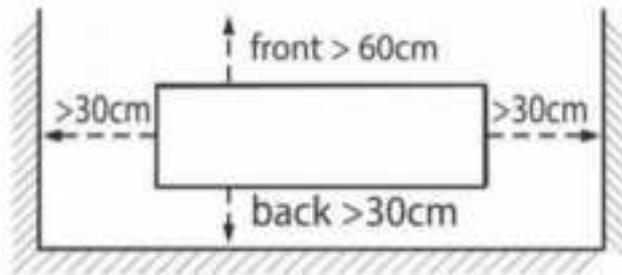

Fig.1
3. The chiller unit must be installed in a condition with good ventilation. Keep the clearance of at least 30cm for the back (air inlet) and two sides and at least 60cm for the front (air outlet). See the Fig.1. More clearance should be provided when the machine works in high power. Otherwise, the cooling efficiency will be reduced or even cause malfunction.